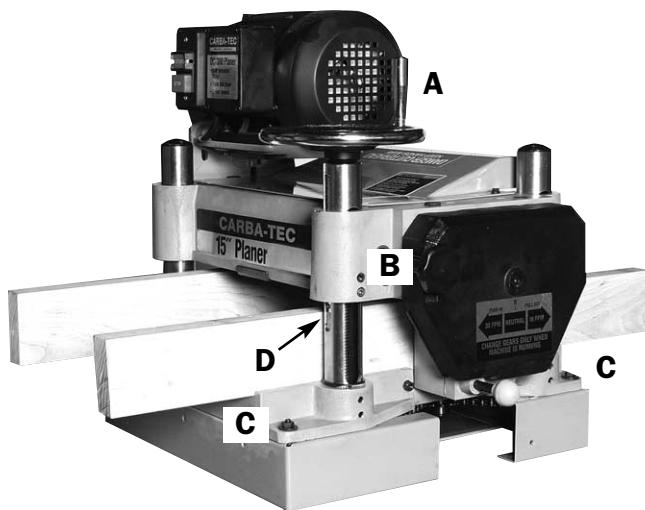

Fig. 1
The best way to lift the planer onto the base, is raising the cutterhead, by turning the handwheel clockwise, Fig. 1 (A) and placing 2 x 100 x 50mm boards on edge onto the table to the left and right of the machine. Then lower the cutterhead till it grips the boards preventing them from slipping sideways. The protruding ends become handles. You will require 1 fit, healthy person on each corner to lift the planer onto the base.
Align the 4 bolt holes at the corners, Fig. 1 (C) and with the front cover removed from the base, insert bolts from underneath with the heads facing down, through both the base and the planer, fit nuts and washers provided and tighten securely. Replace front cover of base
To adjust the depth of cut you need to raise or lower the head assembly which contains the cutterhead. Loosen the locking knobs, Fig. 1 (B) and turn the handwheel clockwise to raise the cutterhead and anticlockwise to lower it. When you have set the machine to the required depth of cut, tighten the locking knobs. The gauge Fig. 1 (D) will tell you what finished size that setting will give you.